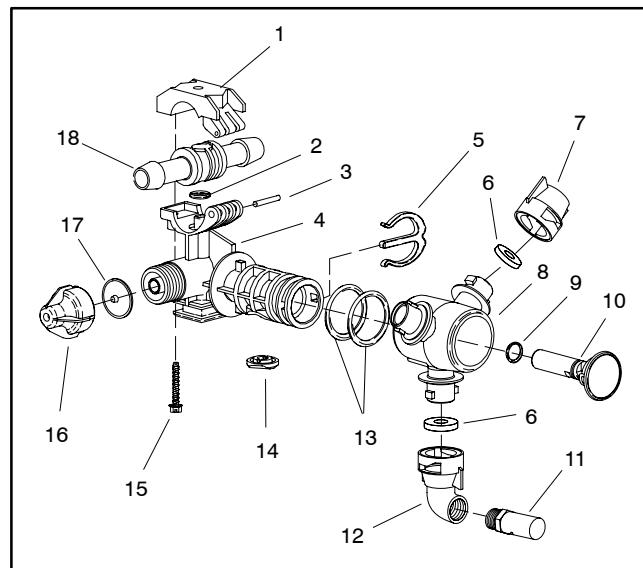

Figure 36
### Disassembly (Fig. 36)
2. Disassemble turret body using Figure 36 as a guide.
### Assembly (Fig. 36)
2. Assemble turret body using Figure 36 as a guide.